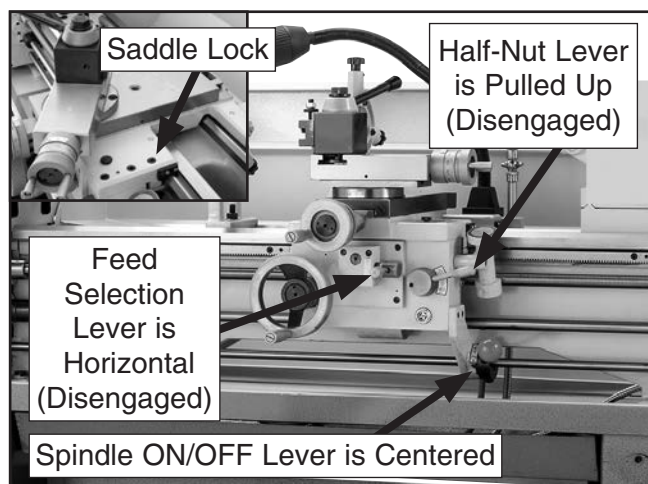
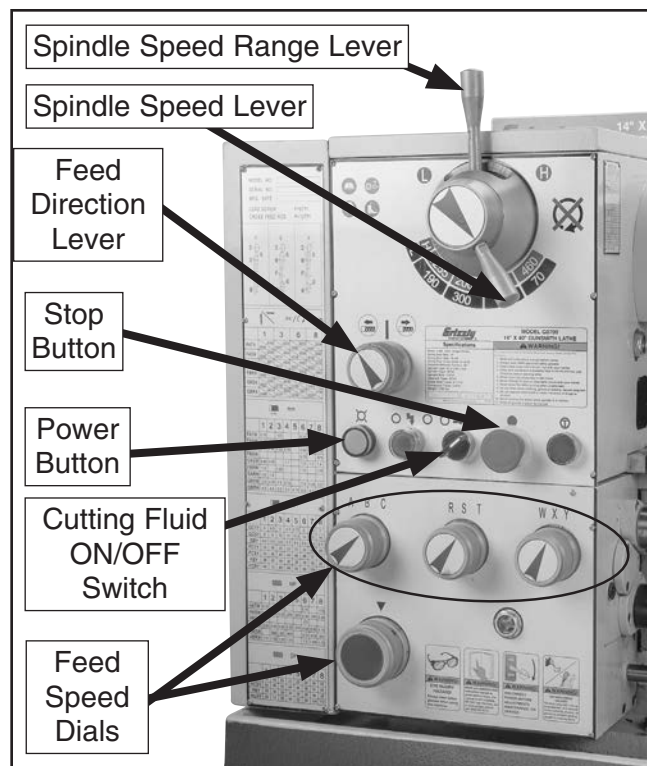

Figure 10. Apron controls.
Figure 11. Headstock controls.
- Disengage the half-nut lever and the feed selection lever (see **Figure 10**), and make sure the saddle lock is loosened to allow the lead screw or feed rod to move the apron if required.
- Rotate the stop button (**Figure 11**) clockwise until it pops out.
- Move the feed direction lever (see **Figure 11**) to the disengaged middle position.
Note: As long as the feed direction lever shown in **Figure 11** is disengaged, no torque will be transmitted to the quick change gear-box or any other gear-driven component. As a result, the feed speed dials shown in **Figure 11** can be left engaged or disengaged for the test run.
- Push the power button (see **Figure 11**), then move the spindle ON/OFF lever (see **Figure 10**) downward to start the lathe. The spindle will rotate at 70 RPM.